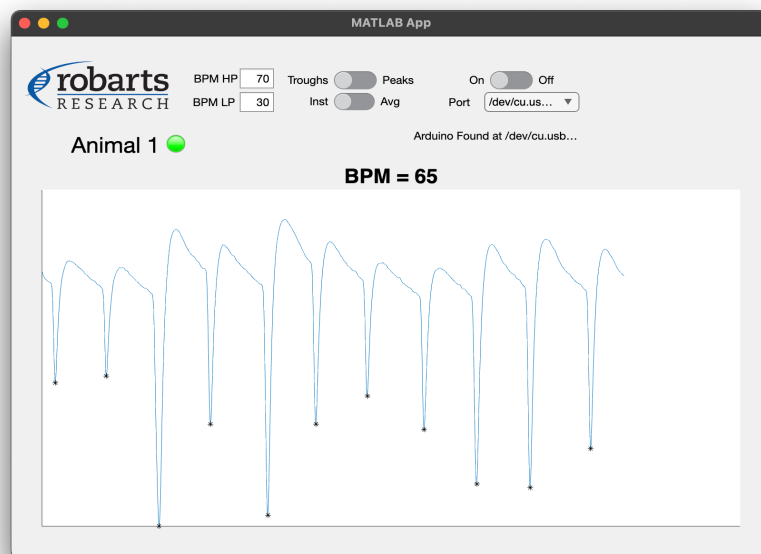

Figure 14
- Maximize the app window on your computer for better visibility of the respiration trend from a distance (Fig 14). A respiration rate below 20 BPM may indicate the animal is in distress, while a rate above 90 BPM suggests the animal may regain consciousness and move within the scanner.